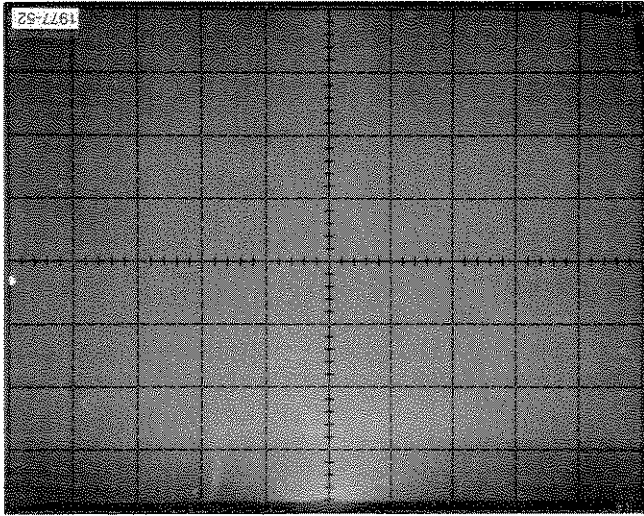

Fig. E-16. Output leakage current.
f. Check the Output Leakage Current as represented by the amount of vertical trace shift from the reference point established in part c above. Typical leakage current is 0.1 nA dc (see Fig. E-16).